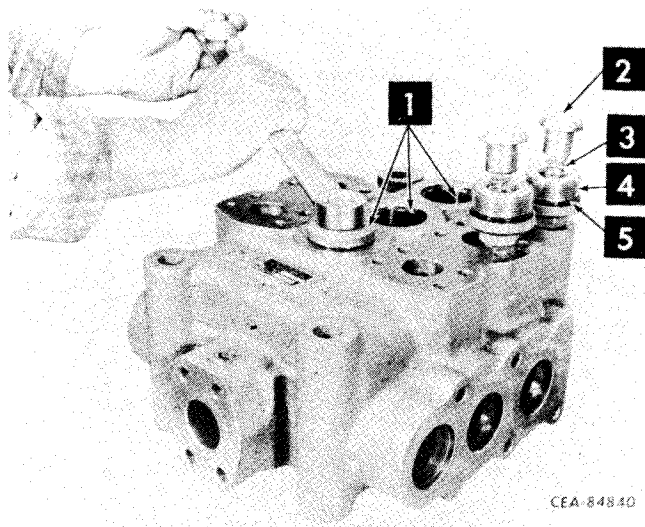

Figure 11-49
Remove three check valves (1, Fig. 11-49). Remove check valve plug (4), spring (3) and poppet (2) from valve body. Discard "O"-ring (5).
Install new "O"-rings (5, Fig. 11-49) on valve plugs (4) being careful not to damage "O"-ring on plug threads. Install poppets (2) in housing bores. Install valve springs (3) in poppet recesses. Lubricate "O"-rings with clean hydraulic fluid and install plugs in housing bores. Be sure valve springs center in plug recesses. Tighten plugs securely.